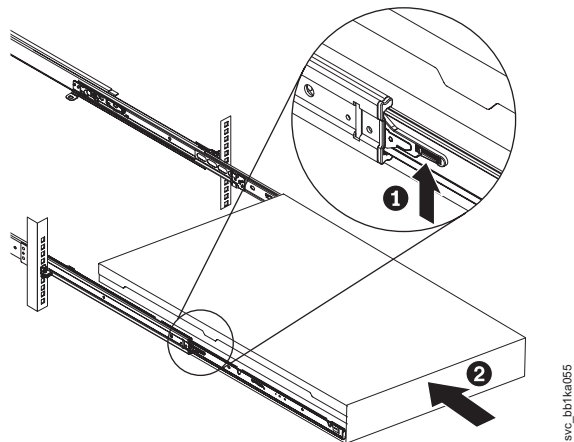

Figure 222. Raising the SAN Volume Controller 2145-CF8 or 2145-CG8 locking levers of the slide rails of the rack
8. Lift the locking levers (**1** in Figure 222) on the slide rails and push the server **2** all the way into the rack until it clicks into place.